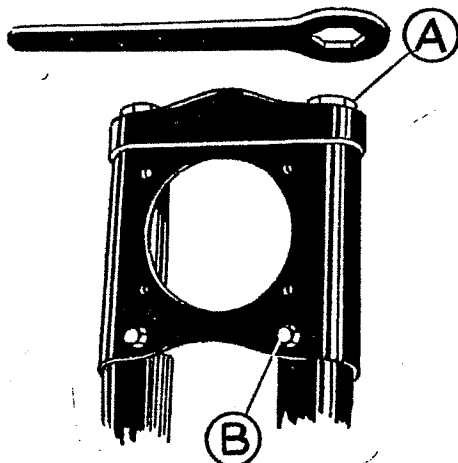

Fig. X1.
Remove the front wheel and front mudguard. Take out the fork top cap (A) Fig. X1, screw service tool part number 61-3350 into the thread at the top of the fork shaft using the larger of the fine threads.
Slacken off the pinch bolt (B) Fig. X1.